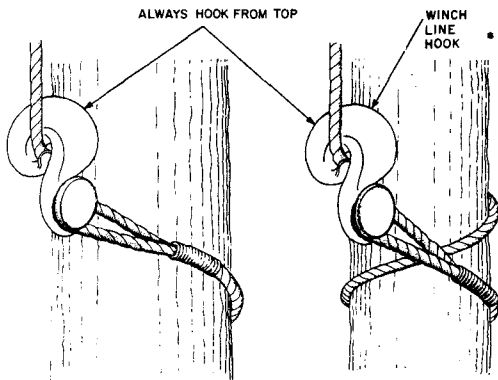

Fig. 1—Winch Line Hook
3.03 The winch line should be attached to the pole being removed as shown in Fig. 1. Be sure the hook is always hooked down over the line so that it will not come loose by its own weight when the line becomes slack. The winch line should be wrapped twice around the smaller poles so that the tail of the eye will not pull into the hook.